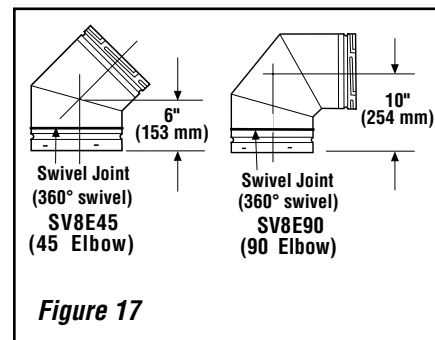

Figure 17
Analyze the vent routing and determine the quantities of vent sections and number of elbows required. Refer to **Vertical Vent Figures and Tables on Pages 13 and 14** to select the type of vertical installation desired. Vent sections are available in net lengths of 4-1/2" (114 mm), 10-1/2" (267 mm), 22-1/2" (572 mm), 34-1/2" (876 mm) and 46-1/2" (1181 mm). Refer to the **Vent Section Length Chart on this Page** for an aid in selecting length combinations. Elbows are available in 90° and 45° configurations. Refer to **Figure 17 on Page 12** for the SV8 E45 and SV8 E90 elbow dimensional specifications.
- At transition from or to a horizontal/inclined run, install the SV8 E45 and SV8 E90 elbows in the same manner as the straight vent sections. The elbows feature a twist section to allow them to be routed about the center axis of their initial collar section to align with the required direction of the next vent run element. **Twist elbow sections in a clockwise direction only so as to avoid the possibility of unlocking any of the previously connected vent sections.** See **Figure 17**.
Analyze the vent routing and determine the types and quantities of sections required 4-1/2" (114 mm), 10-1/2" (267 mm), 22-1/2" (572 mm), 34-1/2" (876 mm) and 46-1/2" (1181 mm) net section lengths are available. Make allowances for elbows as indicated in **Figure 17 on Page 12**.
H. Change vent direction - At transition from or to a horizontal/inclined run, install the SV8E45 and SV8E90 elbows in the same manner as the straight vent sections. The elbows feature a twist section to allow them to be routed about the center axis of their initial collar section to align with the required direction of the next vent run element. **Twist elbow sections in a clockwise direction only so as to avoid the possibility of unlocking any of the previously connected vent sections (see Figure 17 on Page 12).**